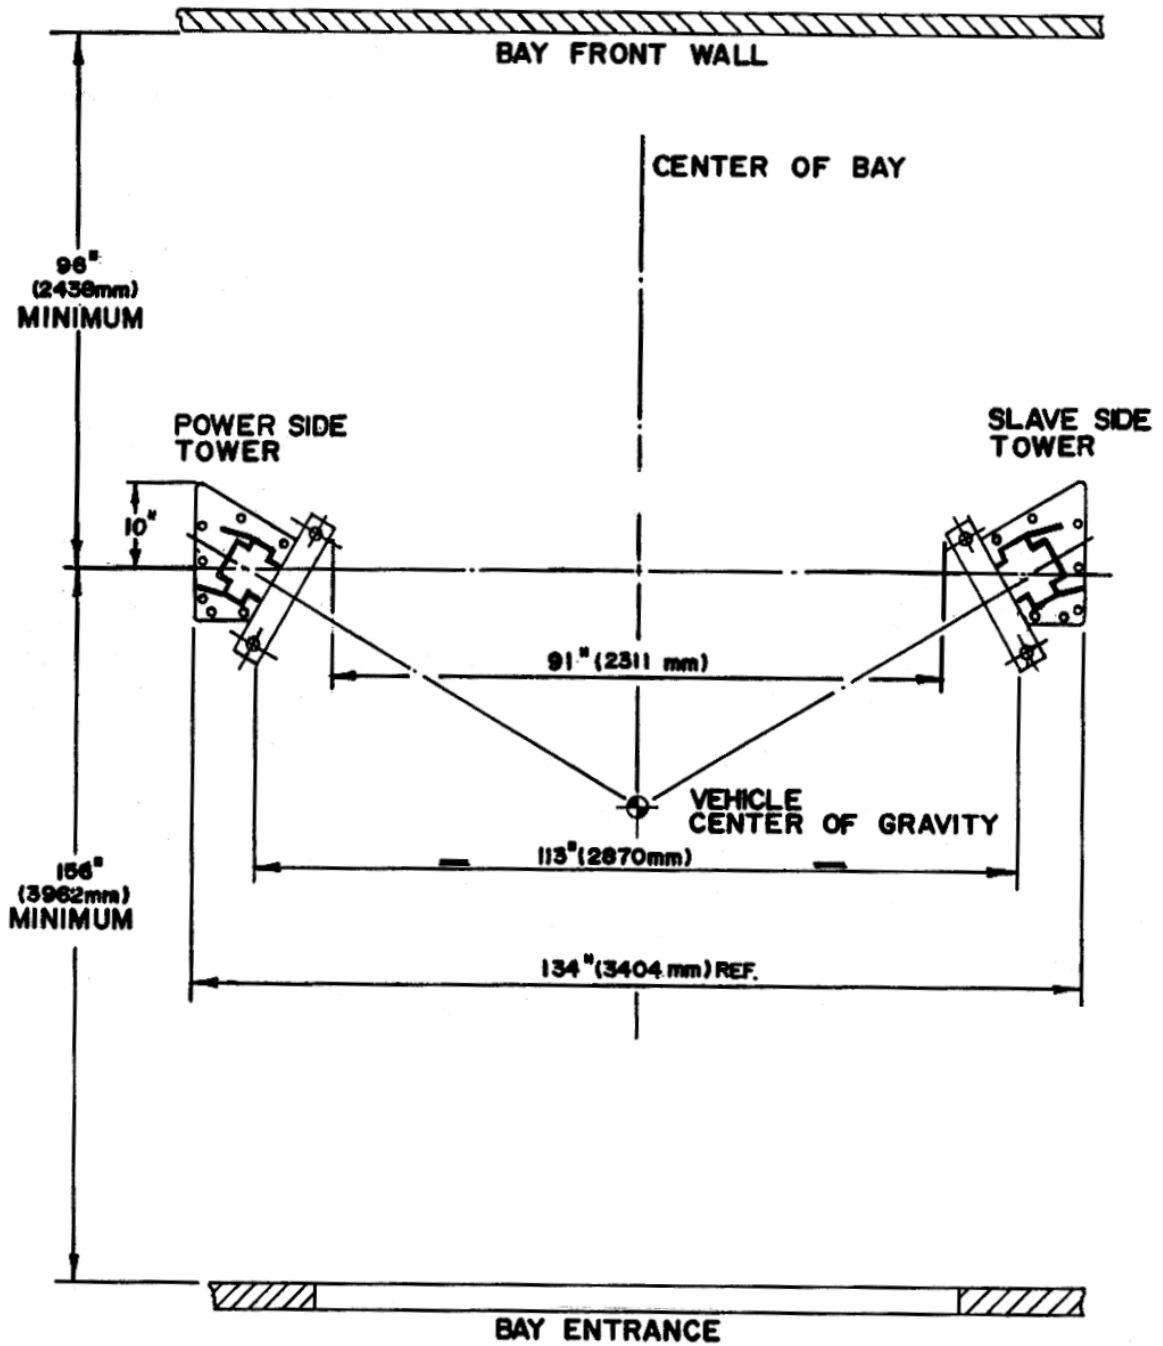

Figure 3 – Bay Layout
7. Prepare the bay by selecting the location of the lift relative to the walls. Clear area of all packaging materials to avoid trip hazards. Draw a chalk line on the floor to represent the center line of the bay and a second chalk line crossing at 90° for locating the lift towers. Refer to **Figures 3**.
1. Locate the power side and slave side tower to the relative position as shown on **Figure 3**. Double check all dimensions.
6. Check the towers to make sure they are located, and positioned in the correct location. Refer to **Figure 3**.